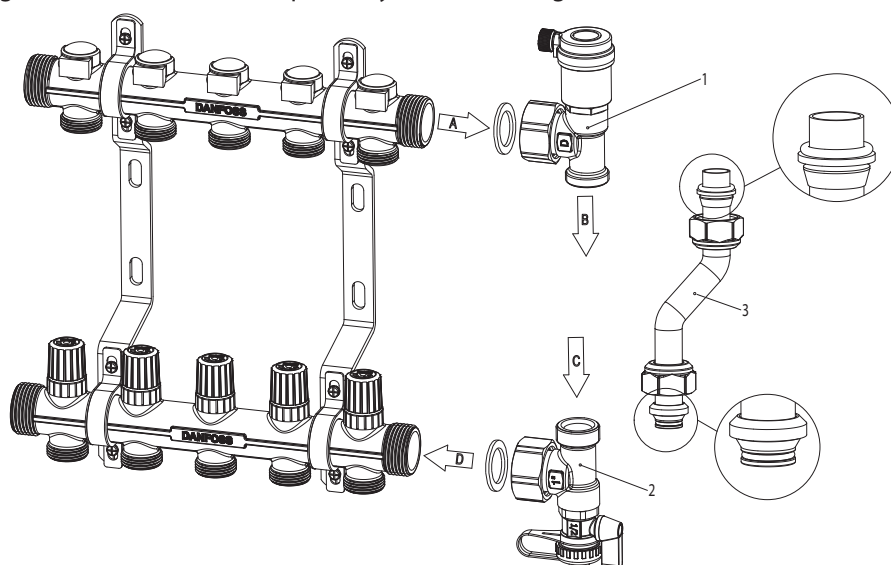

Fig. 3
1. Mounted airvent component 1 on manifold supply pipe, sealing by gasket 3, direction of inlet A and outlet B as shown in figure 3.
2. Mounted purge component 2 on manifold return pipe, sealing by gasket 3, direction of inlet C and outlet D as shown in figure 3.
3. Insert connector tube end E into airvent component outlet B and adjust copper tube position, as shown in figure 3.
4. Insert connector tube end F into purge component inlet C, as shown in figure 3.